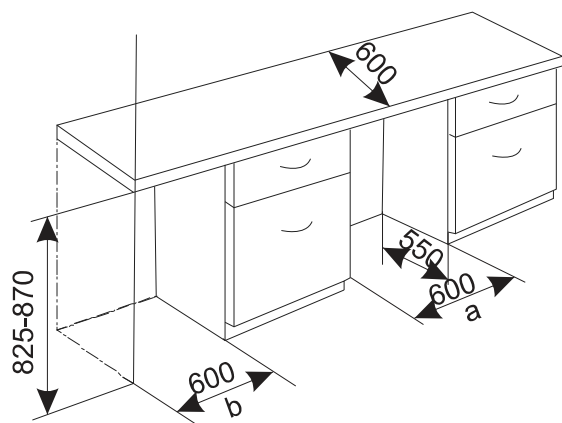

Figure 1
1. The furniture's dimensions must comply with those shown in Figure 1. The appliance can be inserted under the worktop between two (a) or placed as a terminal unit (b).